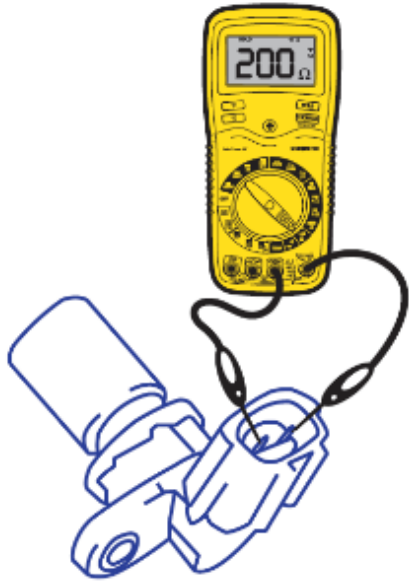

Figure 13. Checking CKP resistance.
- Resistance. Usually between 150 and 1,500 ohms but check service information for the exact specifications. Fig 13.